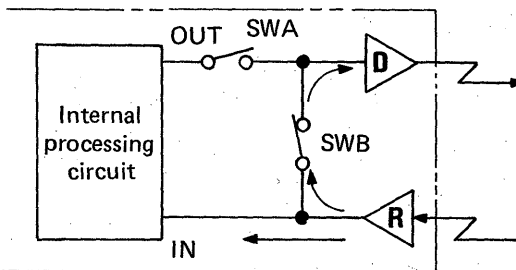

Fig. 3.5 Online - Data Communication
During data receiving in the online mode, SWA is open and SWB is closed as shown in Fig. 3.5. Send data from the exterior are input to the internal processing circuit through the receiver (R), and at the same time, sent from the driver (D) to the next channel via SWB.